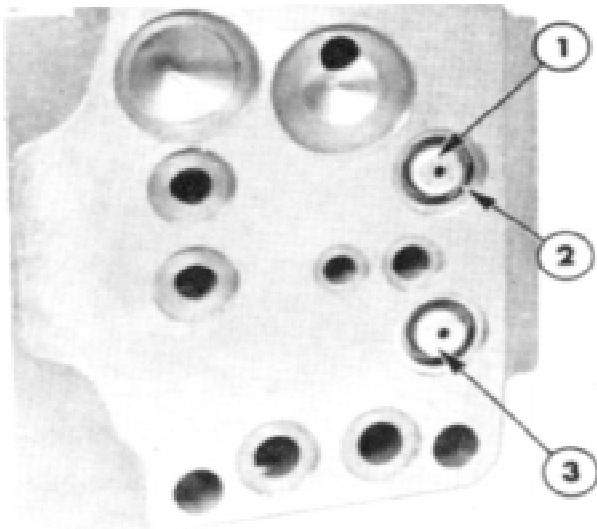
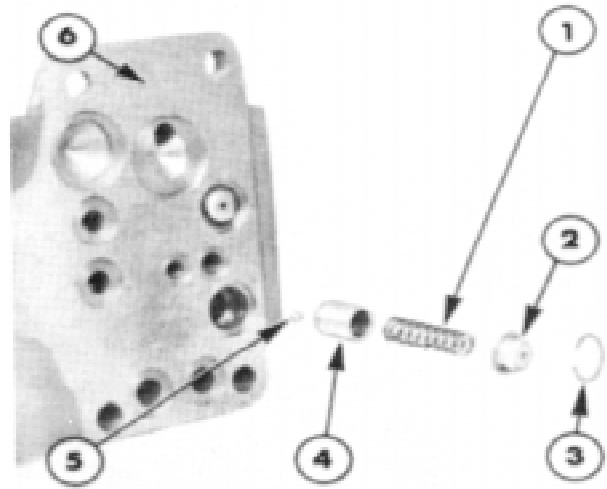

Figure 5
Figure 6
1. Remove the detent retaining snap ring from the base of the remote control valve, Figure 5, and withdraw the retainer, spring and detent, Figure 6.